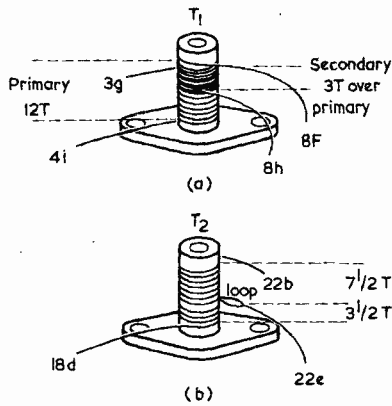

Fig. 5. Details of (a) coil T_1 , and (b) coil T_2
(2). Wind T_1 as follows (see Fig. 5 (a)). Bare one end of a length of 24 s.w.g. enamelled copper wire and solder it in place in hole 4i; now wind anticlockwise from the base upwards, keeping the windings tight and close spaced, for a total of 12 turns.
(3). Wind T₂ as follows (see Fig. 5 (b)). Bare one end of a length of 24 s.w.g. enamelled copper wire and solder in place in hole 18d; now wind clockwise from the base upwards for 3½ turns, form a loop, and then continue the winding, still clockwise, for another 7½ turns. Finally solder the free end of the wire in place in hole 22b. Solder a lead from the tap